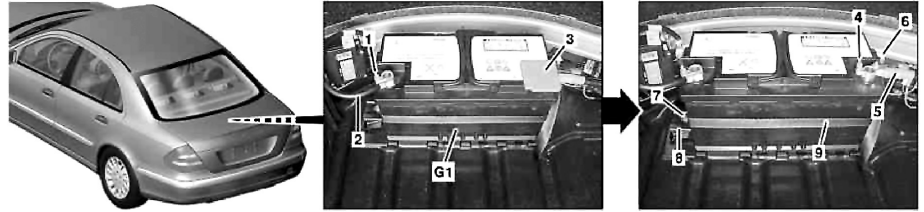

Fig. 1 Primary battery removal
4. Loosen nut (1), and remove ground line (2) from battery (G1), **Fig. 1**.
6. Remove positive terminal cover (3), **Fig. 1**.
7. Loosen nut (4), and remove positive line (5) from battery (G1), **Fig. 1**.
8. Pull off vent hose (6), **Fig. 1**.
9. Remove bolt (7), and remove bracket (8), **Fig. 1**.
10. Loosen retaining strap (9), and take battery (G1) with carrying yoke out of trunk, **Fig. 1**.
7. Install ground line to battery. Ensure that ground line (2) is seated tightly, otherwise terminal may be damaged, **Fig. 1**.
9. Install ground line (2) to battery (G1), **Fig. 1**.